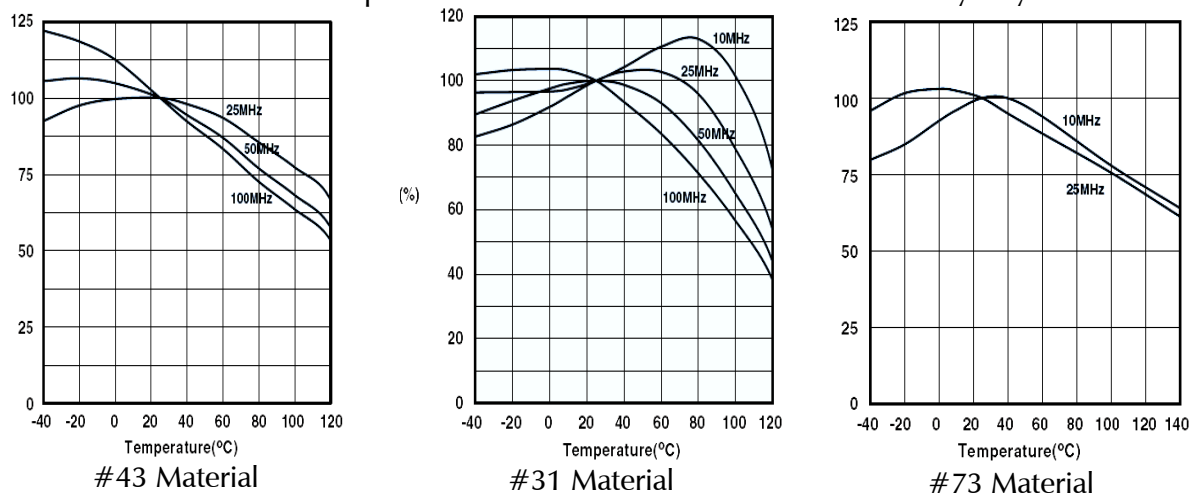

Fig 5 – Impedance vs. Frequency and Temperature as a percentage of impedance at 25°C
**Temperature** The permeability of ferrite materials varies as a function of both frequency and temperature, and different mixes behave very differently (Fig 5). Any RF current that produces a field in the ferrite will cause heating in the ferrite (and IR losses in the wire). If the current is small